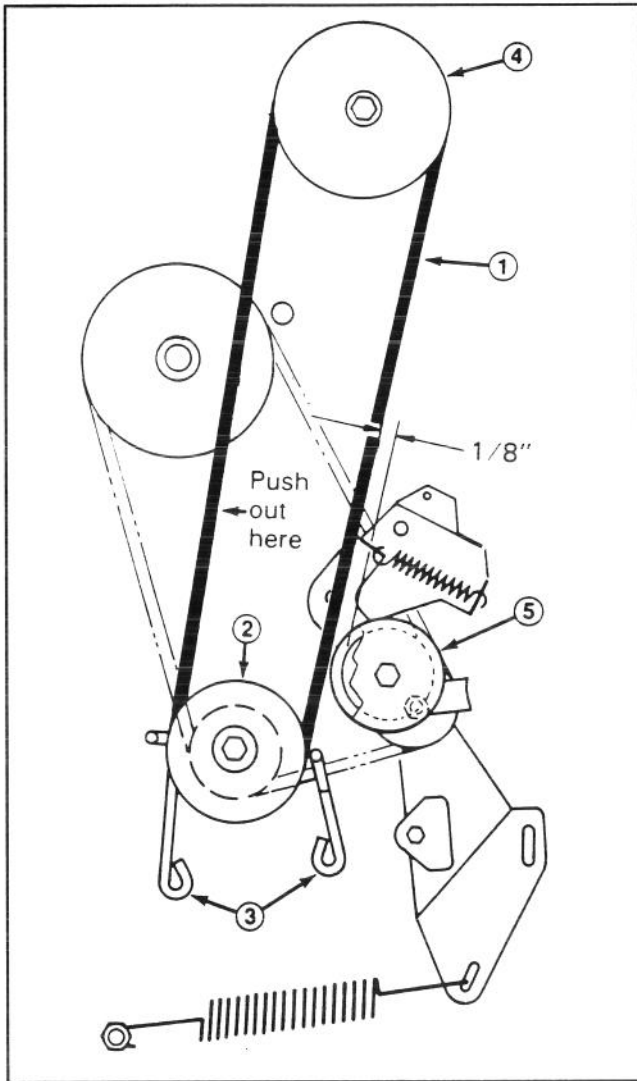

Figure 18
7. Loosen the capscrews securing the (2) engine pulley belt guides and move the guides away from the pulley. Remove the deck drive belt from the engine pulley (Fig. 18).
9. Remove the (2) screws securing the belt guide to the mower housing and remove the belt guide. Remove the belt from the pulley.
12. Pushing out on the belt (removing the slack) (Fig. 18), check the clearance between the outside of the belt and the inside of the idler pulley. Clearance should be approximately 1/8 in. (3 mm).